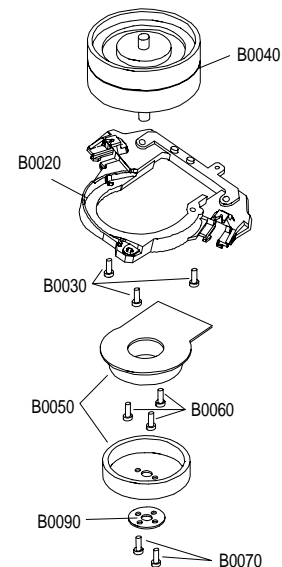

Fig. 7
- Undo 2 screws (Pos. B0070, Fig. 7) and take off the headwheel Pos. B0090 and the rotor.
- Undo 3 screws (Pos. B0060, Fig. 7) and remove the stator.
- Undo 3 screws (Pos. B0030, Fig. 7) and remove the tape drum mounting base (Pos. B0020).